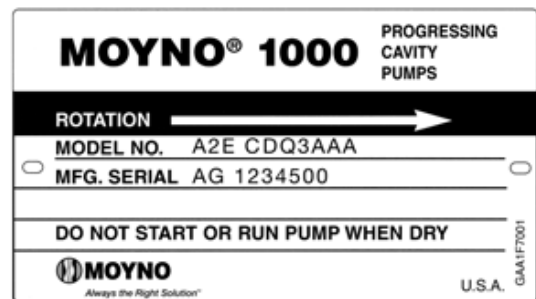

Figure 1-1. Typical nameplate showing rotation arrow, model, and manufacturing serial numbers.
**1-6. Model Number.** The pump model number is a series of letters and numbers which identifies the pump's basic design and materials of construction. A typical model number, for example, might be A2E CDQ3AAA, as shown on the nameplate in Figure 1-1.